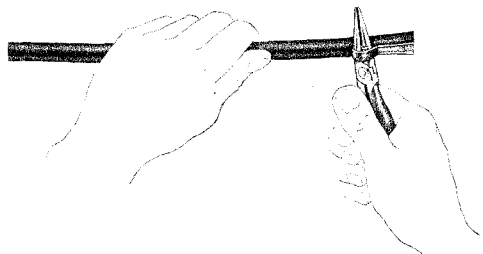

**Fig. 2 — Rolling the Jacket with Diagonal Pliers**
(1) Make two longitudinal cuts opposite each other on the multiple drop wire by means of the large groove of the C braid stripper.
(2) Grip the jacket at the wire end with diagonal pliers and roll the jacket back on itself as illustrated in Fig. 2.